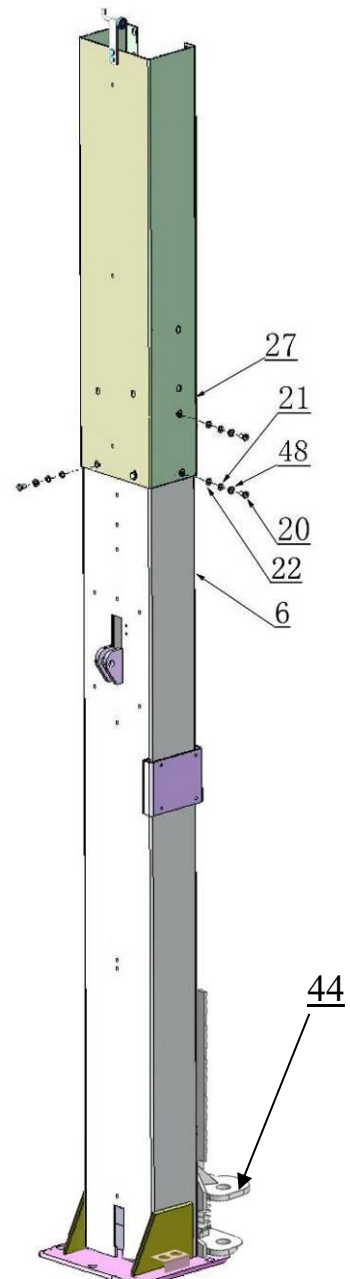

Fig. 16 High Setting
2. When the ceiling height is over 151 5/8" for OH-10, 175 5/8" for OH-10H, connecting the extension columns with the lower hole **(See Fig.16).**